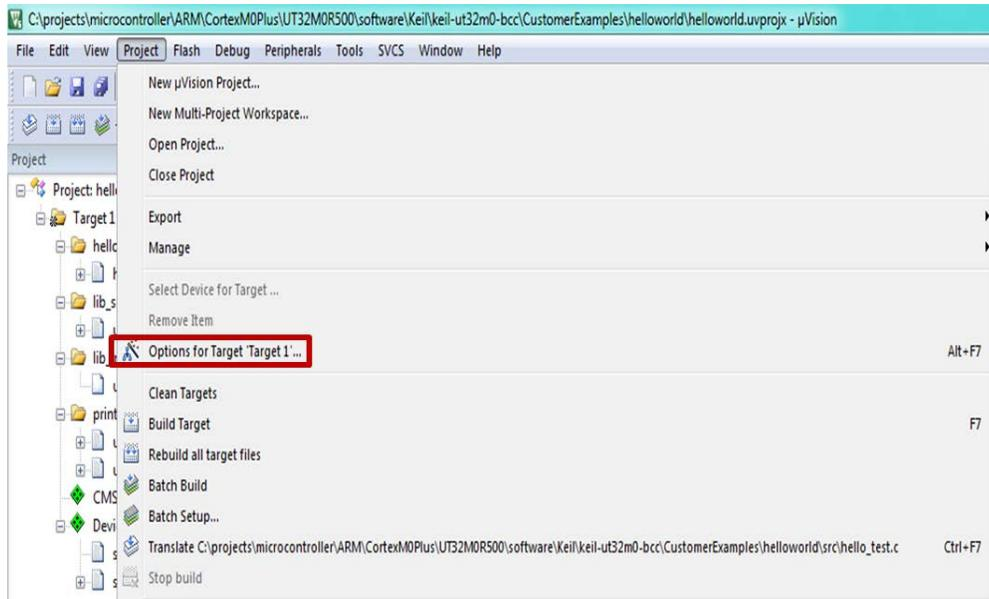

Figure 1: Project Setup
2. From the **Project** menu, select **Options for Target 'Target 1'...** (Figure 1).